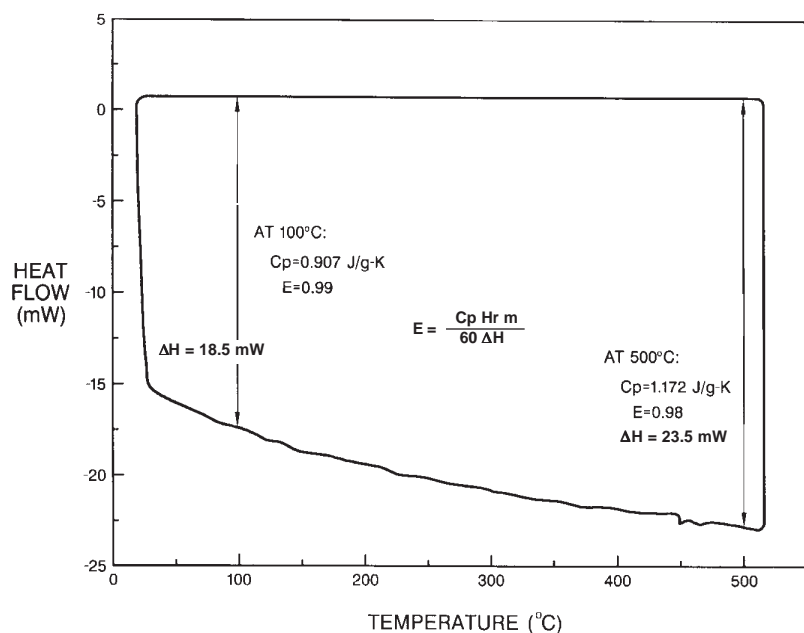

Figure 4.2
4. Calculate the specific heat from the difference between the sample and blank curves at any desired temperature (see Figure 4.2).